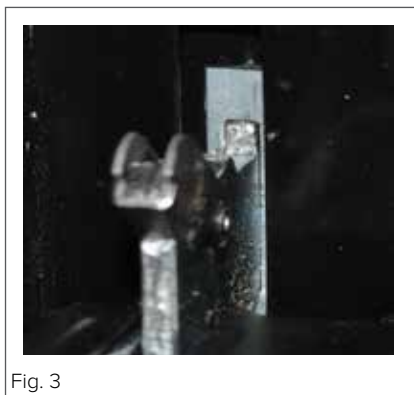

Fig. 3
- Next, ensure the notch on the underside of the hinge sits on the lip of the hinge slot. Open the door fully. Each hinge should be seated in the same way as the hinge in Fig. 3. If it is not, follow the steps for removing the door and try replacing it again